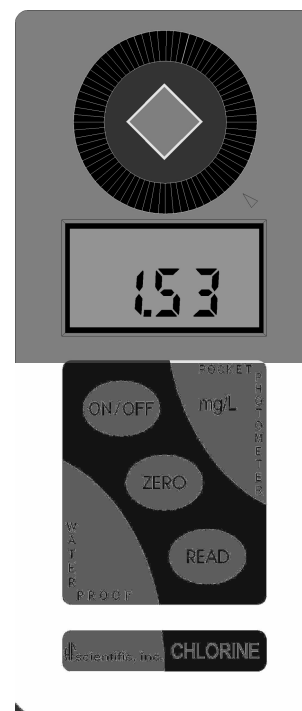

Figure 1
Figure 1 is a depiction of the top of the instrument. The three main components of the instrument are the sample well, the display, and the touch pad. The proper use of the instrument and the sample well will be discussed in later sections.
1.3 The Instrument and Touch Pad (see Figure 1)